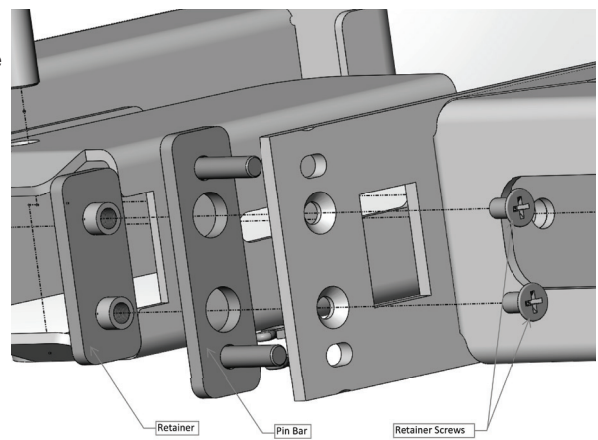

Figure 2
4. To replace, remove the 2 screws shown in figure 2. This will release the retainer.